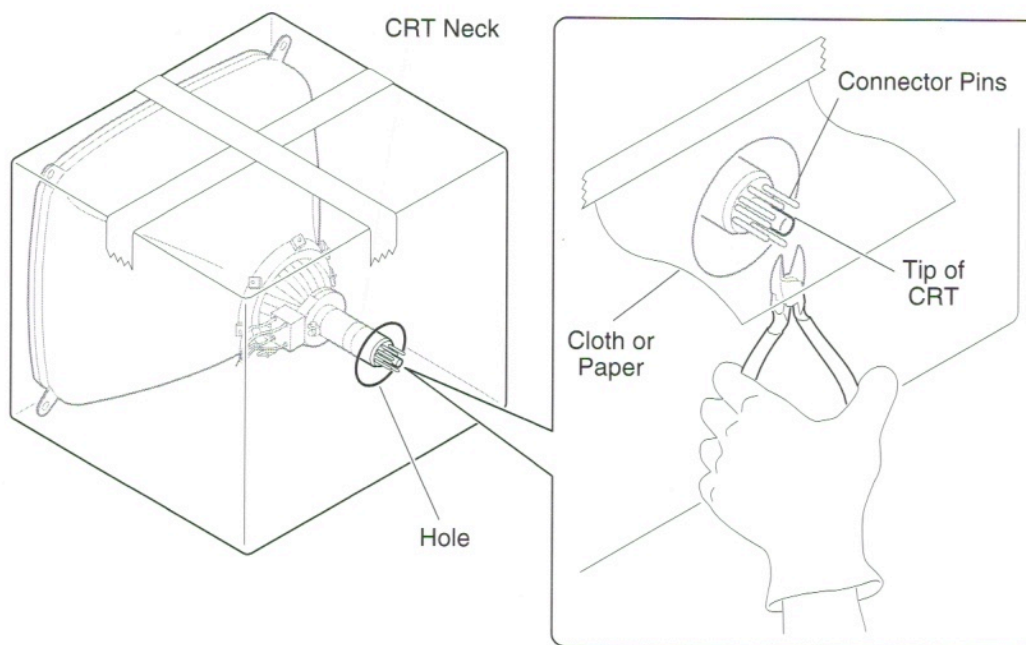

Figure 2. Devacuuming the CRT
3. Place the CRT inside the box with the tip of the neck protruding through the hole, and tape the box flaps down with the duct tape (see Figure 2).
4. Put on gloves and, using the diagonal cutters, carefully clip off the connector pins on the end of the CRT neck (see Figure 2).
5. Tape the piece of cloth or paper onto the box so that it forms a veil over the opening, but allows access to the tip of the CRT. The purpose of the veil is to catch bits of glass that may fly during the next step (see Figure 2).